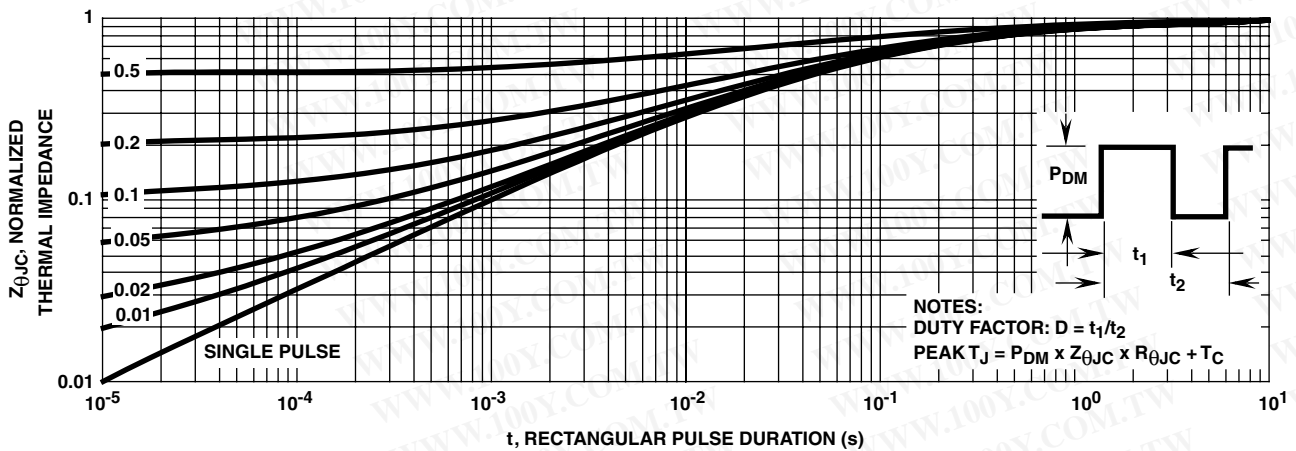

FIGURE 3. NORMALIZED MAXIMUM TRANSIENT THERMAL IMPEDANCE
- Repetitive rating: pulse width is limited by maximum junction temperature. See Transient Thermal Impedance curve (Figure 3) and Peak Current Capability Curve (Figure 5).